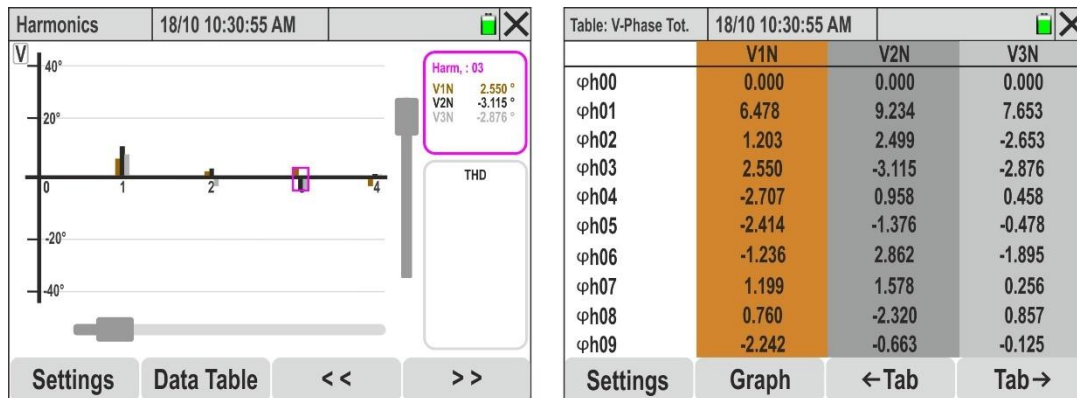

Fig. 58: Phase angle harmonic analysis for voltage signals
17. **When the 4 voltages or 4 currents are selected**, the bar graphs of the phase angles with respect to the origin of the quantities V1N, V2N, V3N, VNPE or I1, I2, I3, IN are shown in Fig. 58 – left part
19. Touch the "Data Table" key to switch from the numeric display. The screen in Fig. 58 – right side is shown on the display. The parameters "φhxx" indicate the amplitude of the harmonic xx, for each selected channel